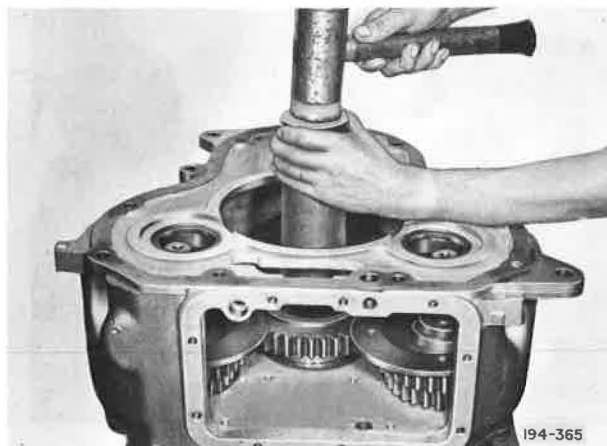

Figure 5-142. Driving Compound Main Driving Pinion Forward
13. (TRDXL1070) Using a length of suitable tubing as a tool, drive compound main driving pinion as far forward as possible. See Figure 5-142. (This step is necessary for the removal of the compound countershaft front bearings).